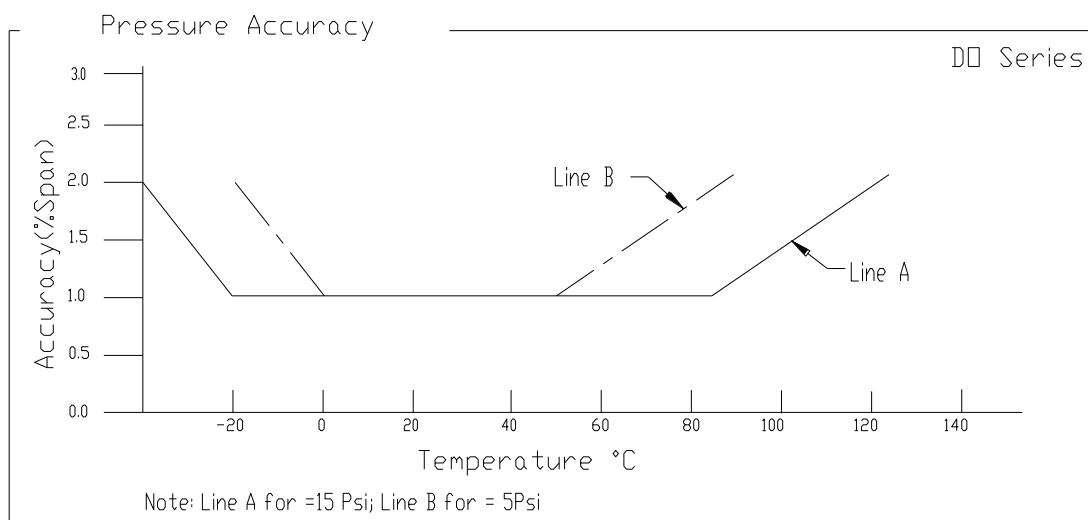

Fig 3
1. Measured at vacuum for absolute (A), ambient for gage (G) and sealed gage(S). Output is not ratiometric to supply voltage.
3. Total Error Band: includes calibration errors and temperature effects over the compensated range. See Figure 3.